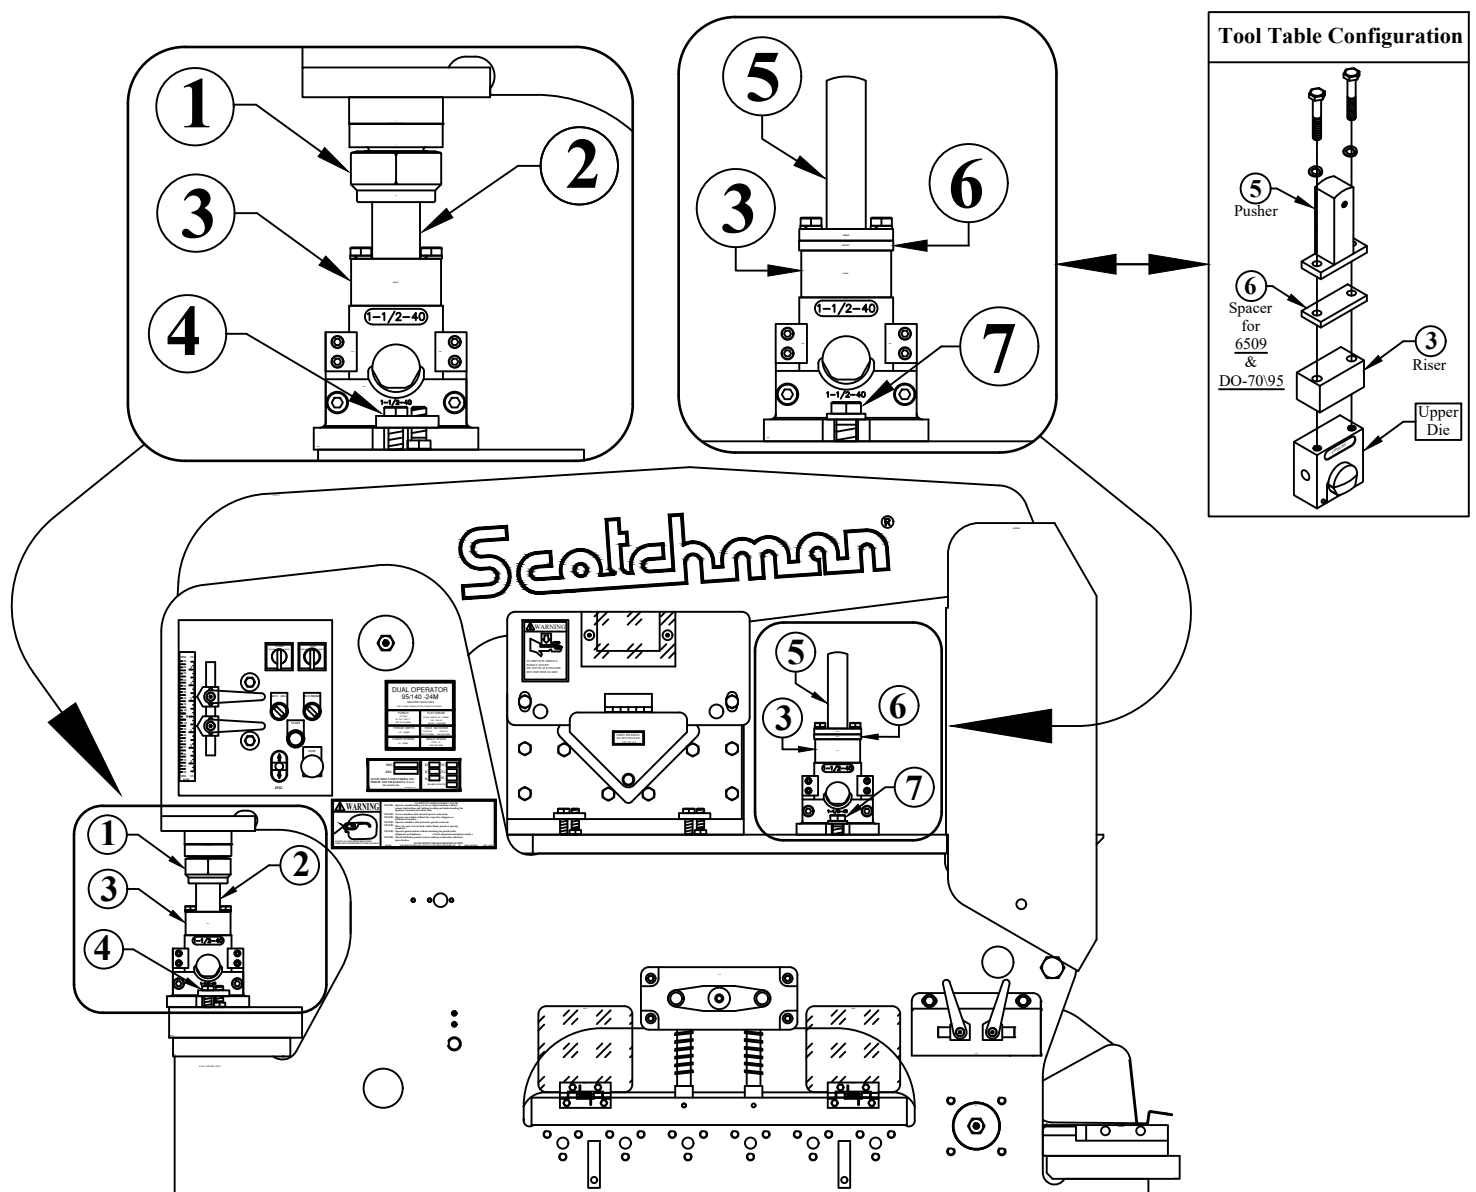

FIGURE 26
SEE FIGURE 26 ON THE NEXT PAGE.
To mount the notcher on the Tool Table, attach the riser (3), the spacer (6), and the pusher (5) to the tool and align the slug hole in the tool with the slug hole in the tool table. See "Tool Table Configuration" on the middle-right in Figure 26 on the next page. Anchor the tool to the tool table with a bolt and washer (7) that are provided.